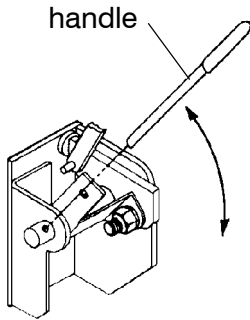

Figure 1-5.
- 260 and 400 amp. E–design* See Figure 1-5.